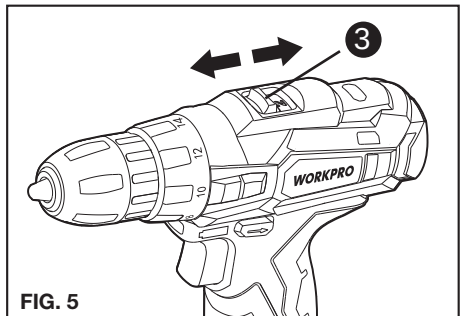

FIG. 5
4. TWO-SPEED GEAR CONTROL (SEE FIG. 5)